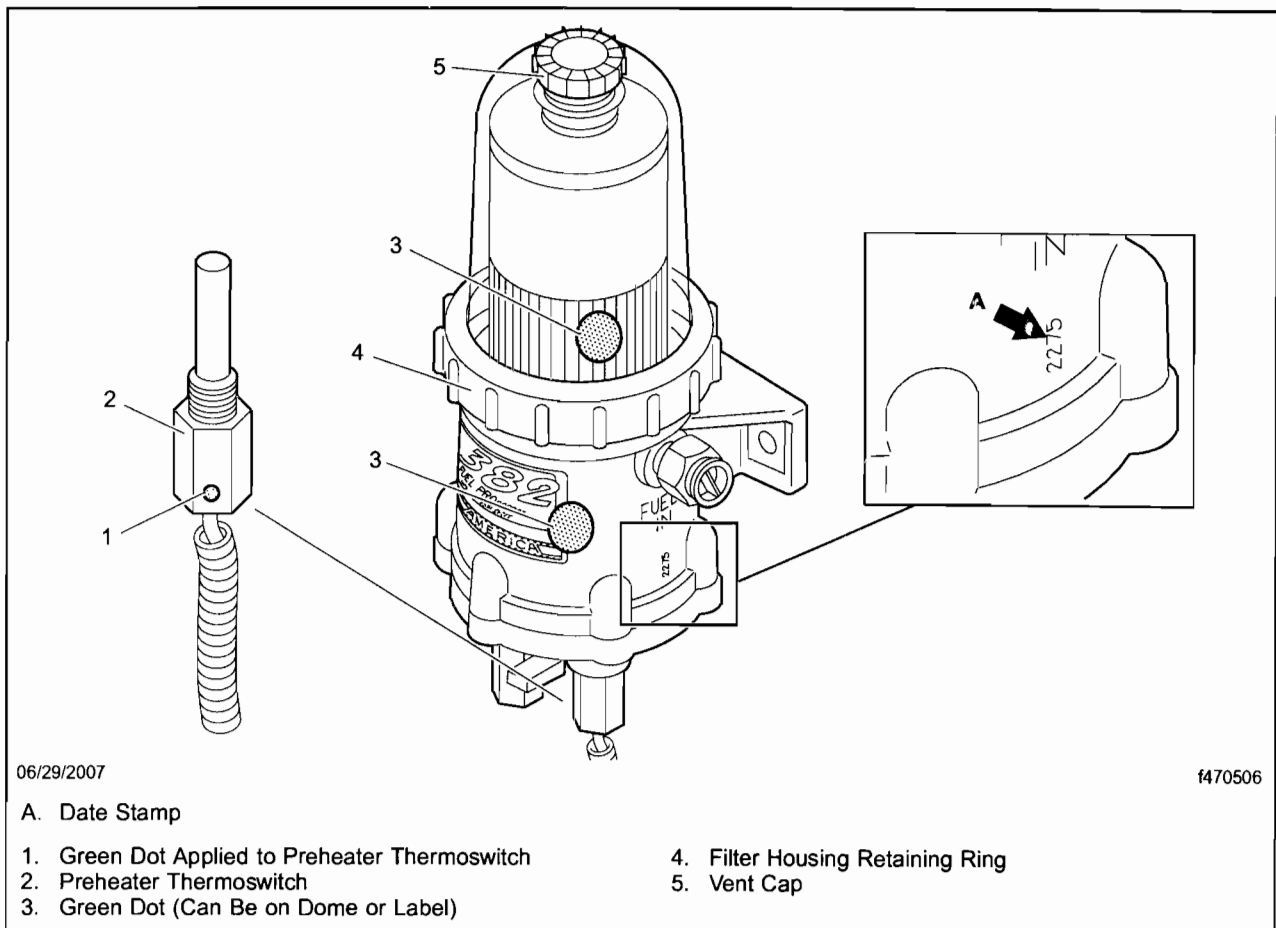

Fig. 1, DAVCO 382 Fuel Pro (typical)
3. Inspect the DAVCO fuel-water separator dome, label, and preheater thermoswitch (**Fig. 1**) for a green-dot sticker. If the green-dot sticker is present on any of these components, the fuel-water separator is OK and no further work is needed. Clean a spot on the base label (Form WAR259). Write the campaign number on a blank, red completion sticker (Form WAR260) and attach it to the base label.
4. If no green-dot sticker is present, check the date code stamp; see **Fig. 1**, Item A.
1. Using a DAVCO Fuel-Water Separator wrench, remove the vent cap (**Fig. 1**, Item 5) from the dome of the DAVCO 382 Fuel Pro.